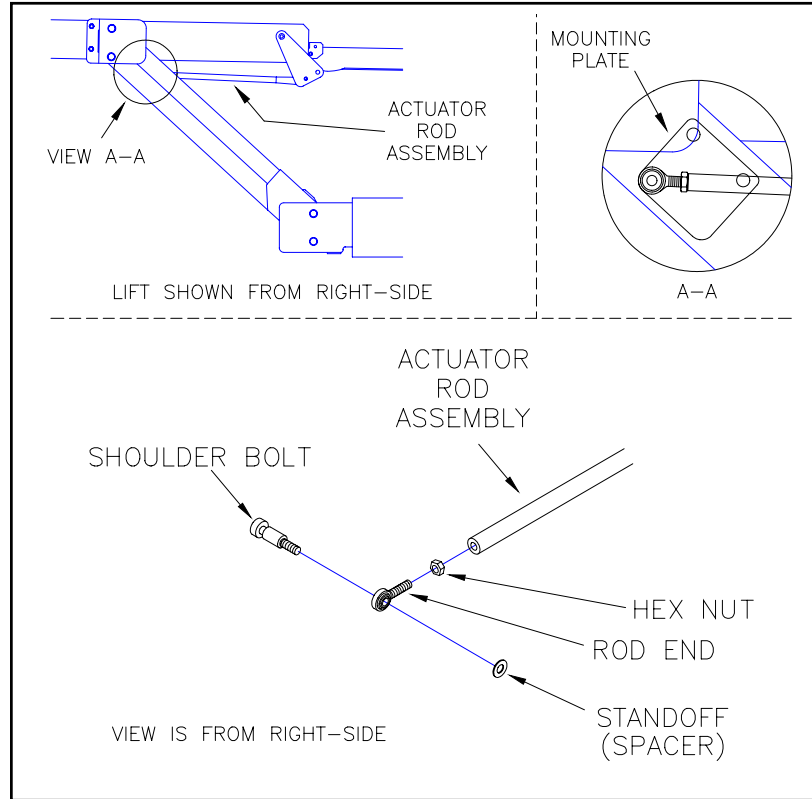

FIGURE 4-8: BRIDGEPLATE ACTUATOR ROD REMOVAL
- 5) Refer to **Figure 4-8**. On the **RIGHT-SIDE** of the lift between the junction of the traveling frame and the platform assembly, locate the rod end of the actuator rod assembly. Loosen the rod end hex-nut.